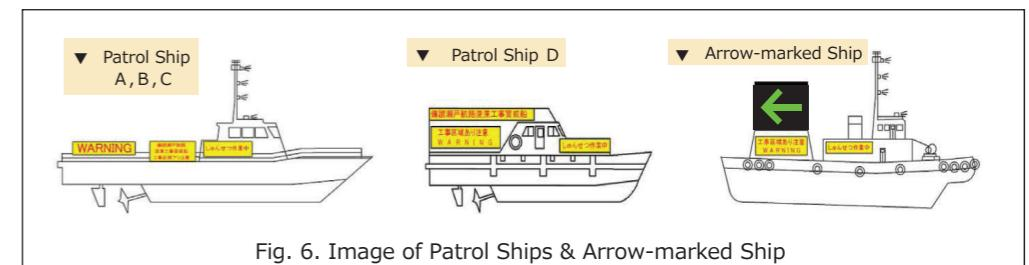
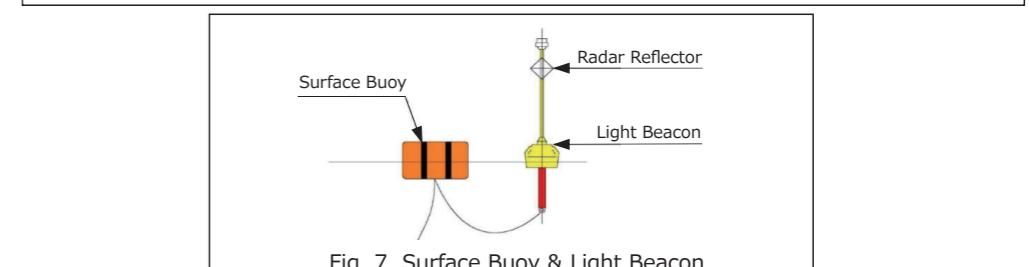

Fig. 6. Image of Patrol Ships & Arrow-marked Ship
Fig. 7. Surface Buoy & Light Beacon
(図6) 警戒船、矢印搭載船イメージ
(図7) 俵ブイ及び灯浮標
- (4) The patrol ships, etc., will display markings as shown in Fig. 6. The arrow-marked ship will be equipped with an electrically-illuminated signboard indicating the navigable waters.
- (5) Patrol ships A~D will be equipped with Marine VHF Radio.
- (6) The pump dredging ship will drop anchor within the dredging work zone as shown in Table 1. A surface buoy and light beacon (with synchronized blinking) will be installed at the location of the pump dredging ship's anchor, as shown in Fig. 7, to clearly indicate the working zone.
- (7) At night, and on days when dredging work is not conducted, the dredging work ships will anchor outside the Bisan Seto Traffic Route. In the event of anchorage, ships will be lit with legally designated lighting and additional indirect lighting while anchored at night.
- (8) During the dredging work, the movements of the work ships and general vessels will be monitored, a Safety Management Office that coordinates with the relevant agencies will be established, and the safety of the marine area around the working zones will be ensured.